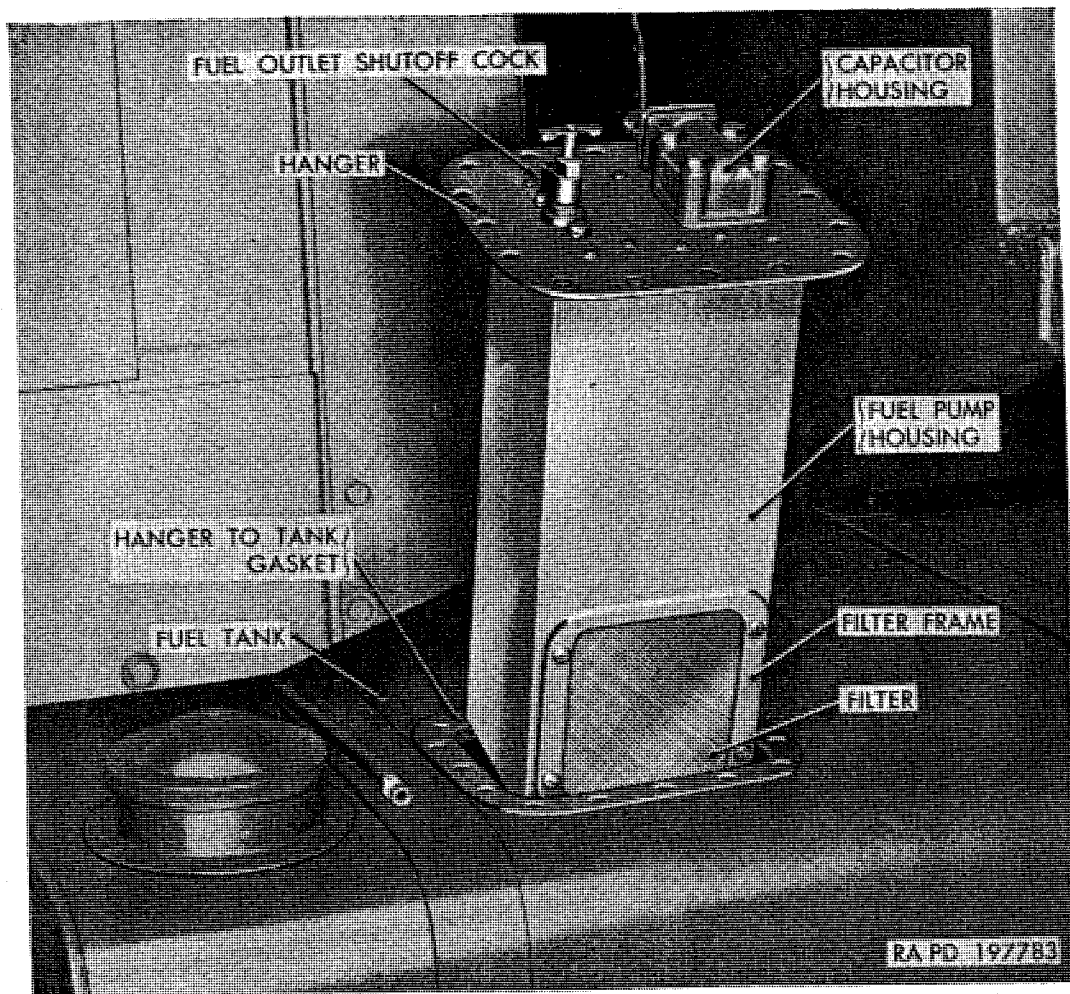

Figure 130. Fuel pump, hanger, and housing removed, exposing fuel filters.
b. Cleaning Fuel Pump Filters (fig. 130).